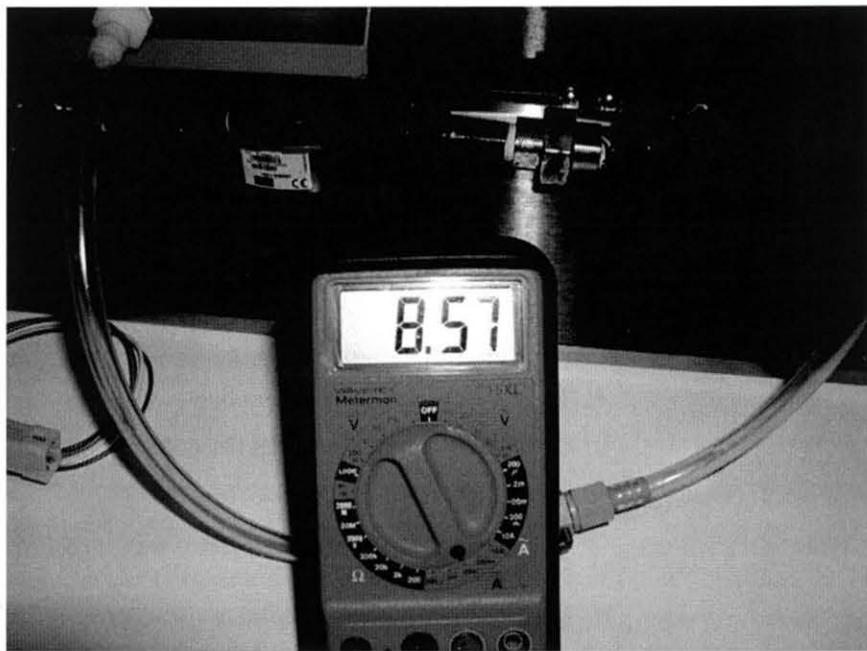

Figure 44. Output Signal Value Displayed by Multimeter
8. Observe the value of the output signal on the display of the multimeter, similar to figure 44.